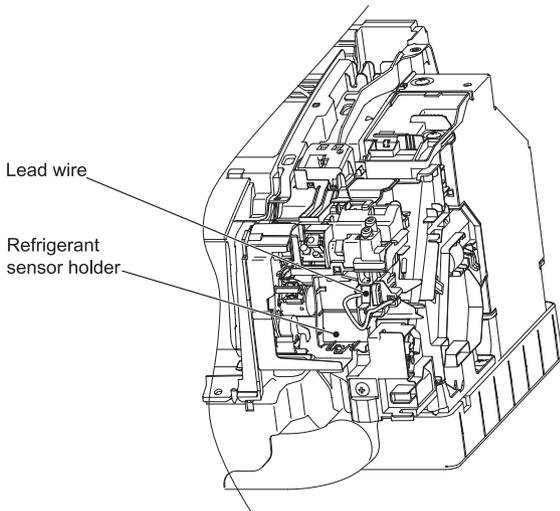

Fig. 1
- (1) Remove the lead wire fixed to the refrigerant sensor holder, then connect it to the refrigerant sensor board. (Fig.1)
(2) Remove the insulation and take out the lead wire below the insulation. (Fig. 1)